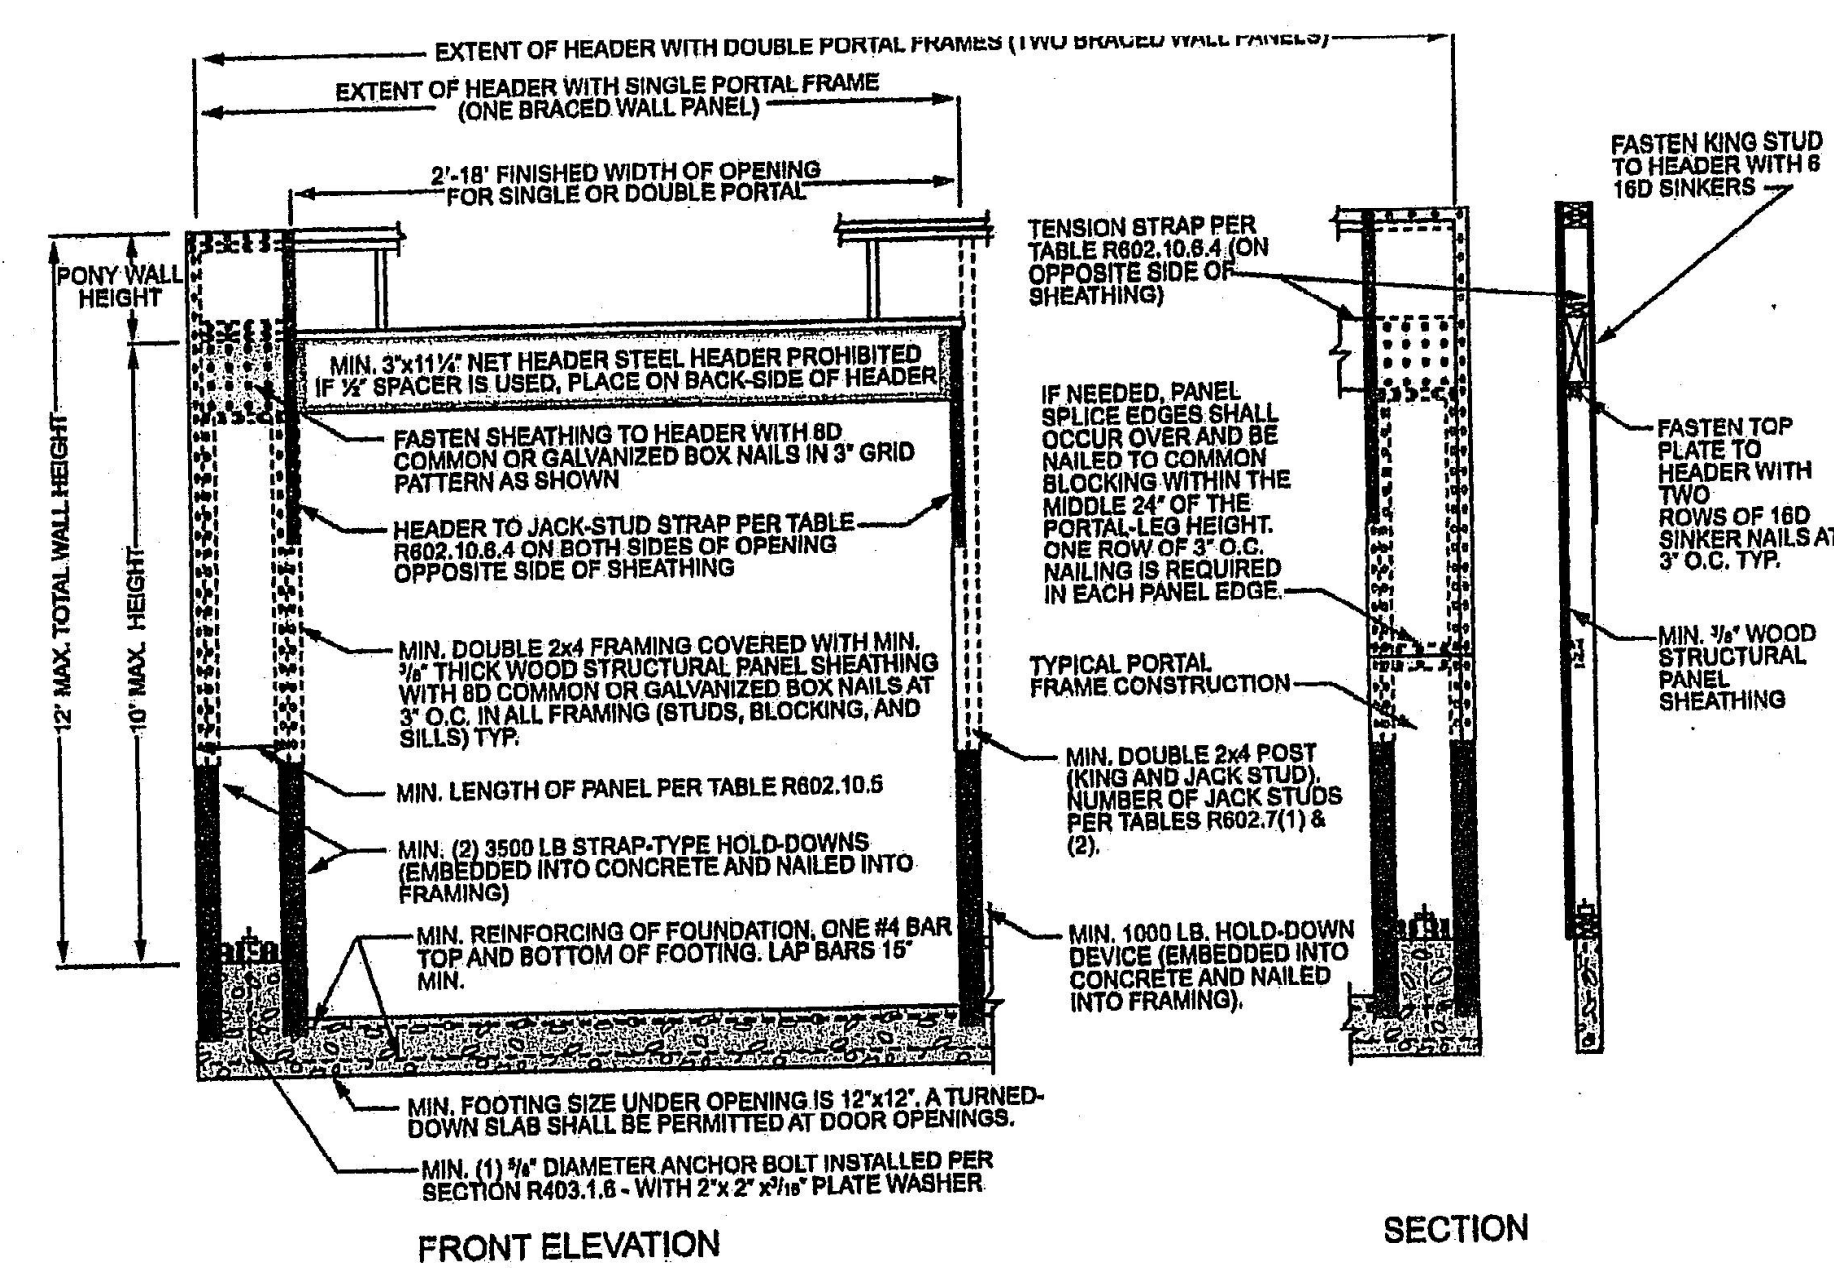

FIGURE R602.10.6.2
- Maximum header height for PFI is 10 feet in accordance with Figure R602.10.6.2, but wall height shall be permitted to be increased to 12 feet with pony wall.
- Maximum header height for PEG is 10 feet in accordance with Figure R602.10.6.3, but wall height shall be permitted to be increased to 12 feet with pony wall.
- Maximum header height for CS-PFI is 10 feet in accordance with Figure R602.10.6.4, but wall height shall be permitted to be increased to 12 feet with pony wall.